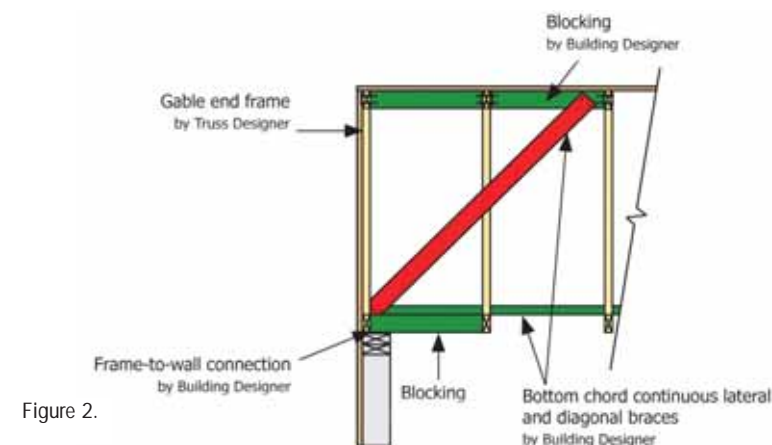

Figure 2.
3. The goal of gable end wall bracing is to provide resistance to high wind forces in a manner similar to the graphic that follows. Ultimately, how this bracing is actually detailed for the structure is the responsibility of the Building Designer (see Figure 2 on page 29 - BCSI-B6 graphic).